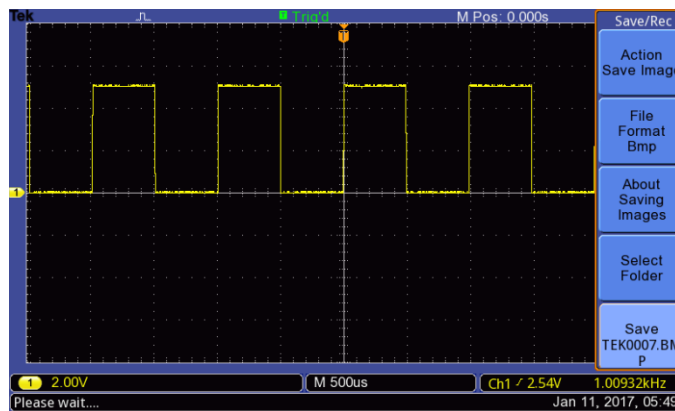

Figure 5: A correctly compensated probe.
6. Insert a probe compensation tool into the hole in the probe BNC connector and adjust it left or right until the signal looks square. See **Figure 5**.